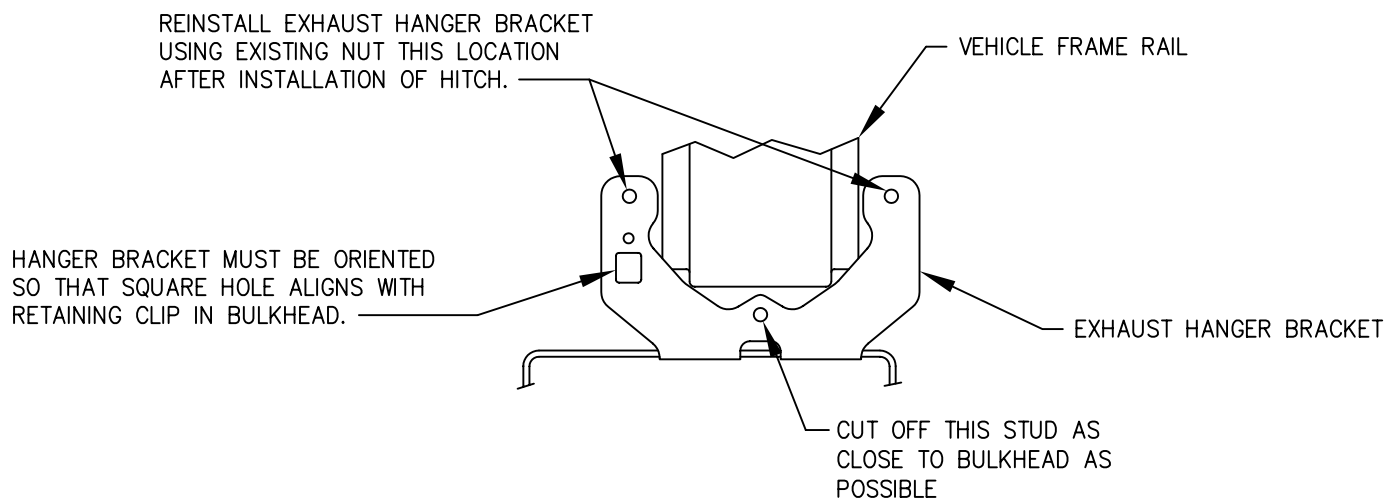

FIGURE 2
- CAREFULLY CUT OFF LOWER STUD, EACH SIDE, AS CLOSE TO BULKHEAD AS POSSIBLE (SEE FIGURE 2). **DO NOT CUT OFF TWO (2) UPPER STUDS.**
- RE-INSTALL EXHAUST HANGER BRACKETS, USING (2) OF THE (3) NUTS REMOVED IN STEP 3, ON (2) UPPER STUDS (SEE FIG. 2). HANGER BRACKET MUST BE ORIENTED SO THAT SQUARE HOLE IN BRACKET ALIGNS WITH RETAINING CLIP IN VEHICLE BULKHEAD.